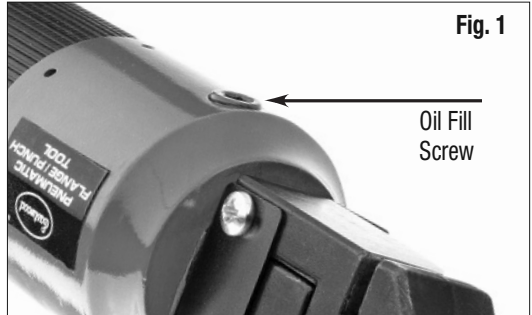

Fig. 1
- Frequently fill the tool's hydraulic system with oil by removing the screw (FIG 1) and filling with oil and then replace the screw.